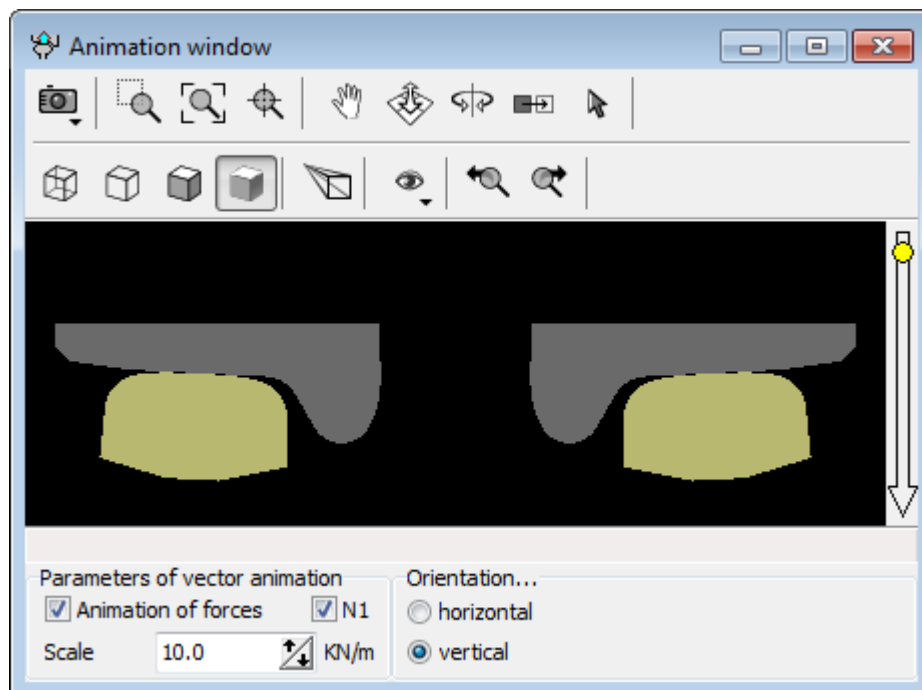

Figure 1.5. Animation of contact
2. Turn on the **Animation of forces** and **N1** check boxes, see Figure 1.5. In order to get quite large-scale vectors of forces we need to change scale of vectors.